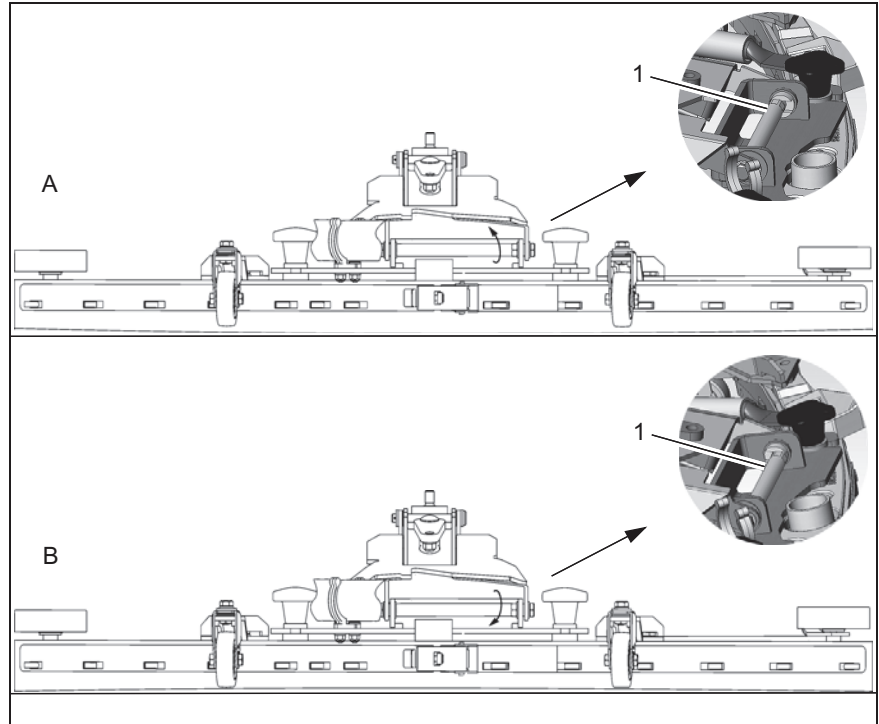

Fig.13
2. Loosen the screws on the eccentric wheel (Fig. 13/1) and adjust the squeegee using the eccentric wheel (SW13) so that the ends of the sealing strips still have contact with the floor.